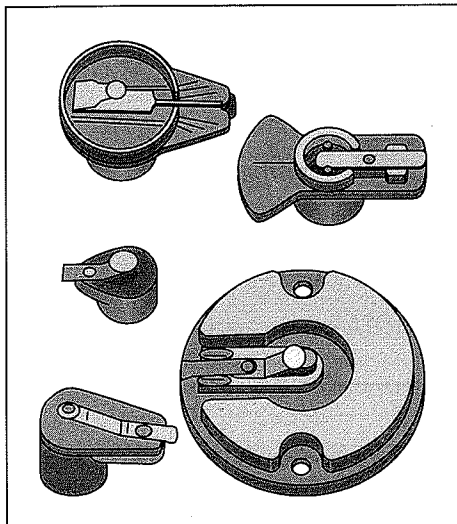

Figure 5-14:
- ⚡⚡ The rotor (see Figure 5-14) sits atop the distributor shaft inside the distributor. As the distributor shaft turns, the rotor rotates with it and points toward the terminal at the base of each spark plug wire so that each plug can fire in the correct order. For example, when it's pointing at the terminal of the wire leading to your Number 1 spark plug, it directs the current to that spark plug at precisely the time when the fuel/air mixture in the Number 1 cylinder is waiting to be exploded.